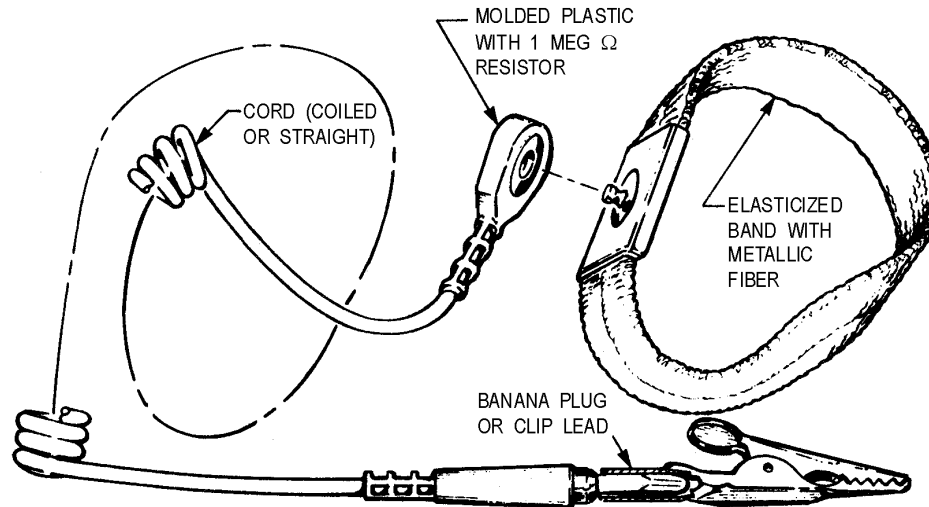

Figure 2-6.—ESD wrist strap.
1. Before servicing equipment, you should be grounded to discharge any static electricity from your body. This can be accomplished with the use of a test lead (a single-wire conductor with a series resistance of 1 megohm) equipped with alligator clips on each end. After the equipment has been completely de-energized, one clip end is connected to the grounded equipment frame; the other clip end is touched with your bare hand. Figure 2-6 shows a more refined ground strap, which frees both hands for work.